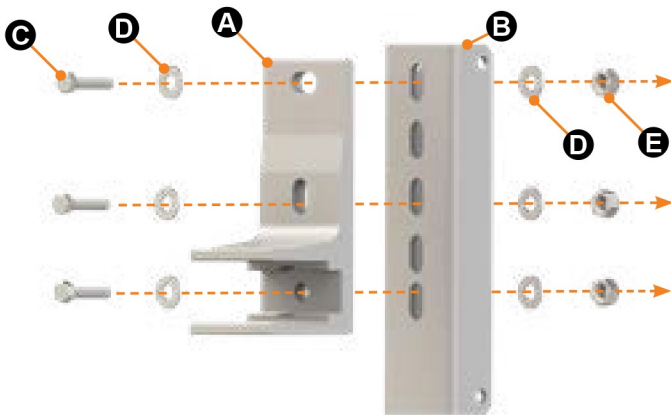

Fig.41
1. Affix a wall bracket (Fig. 41A) to an awning-side roof bracket (Fig. 41B) using three M10 x 35mm bolts (Fig. 41C), six 26mm x 10mm Flat Washers (Fig 41D), and two M10 locking nuts (Fig. 41E). Make sure the side of the awning side roof bracket with fewer holes is oriented downwards as depicted in Figure 41.